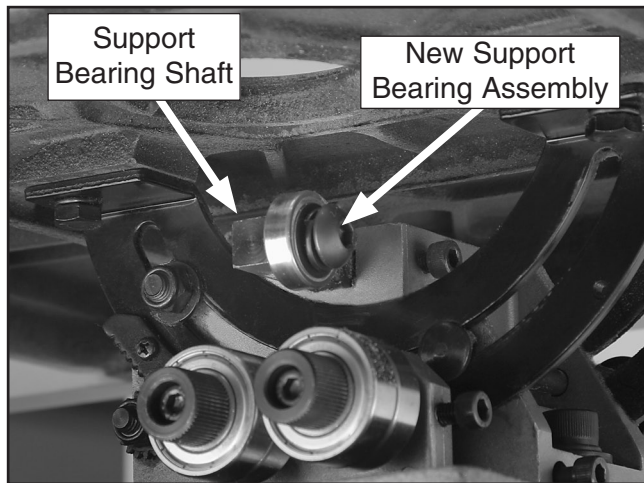

Figure 7. New lower support bearing assembly.
11. Thread this assembly several turns into the support bearing adjustment shaft as shown in **Figure 7**.